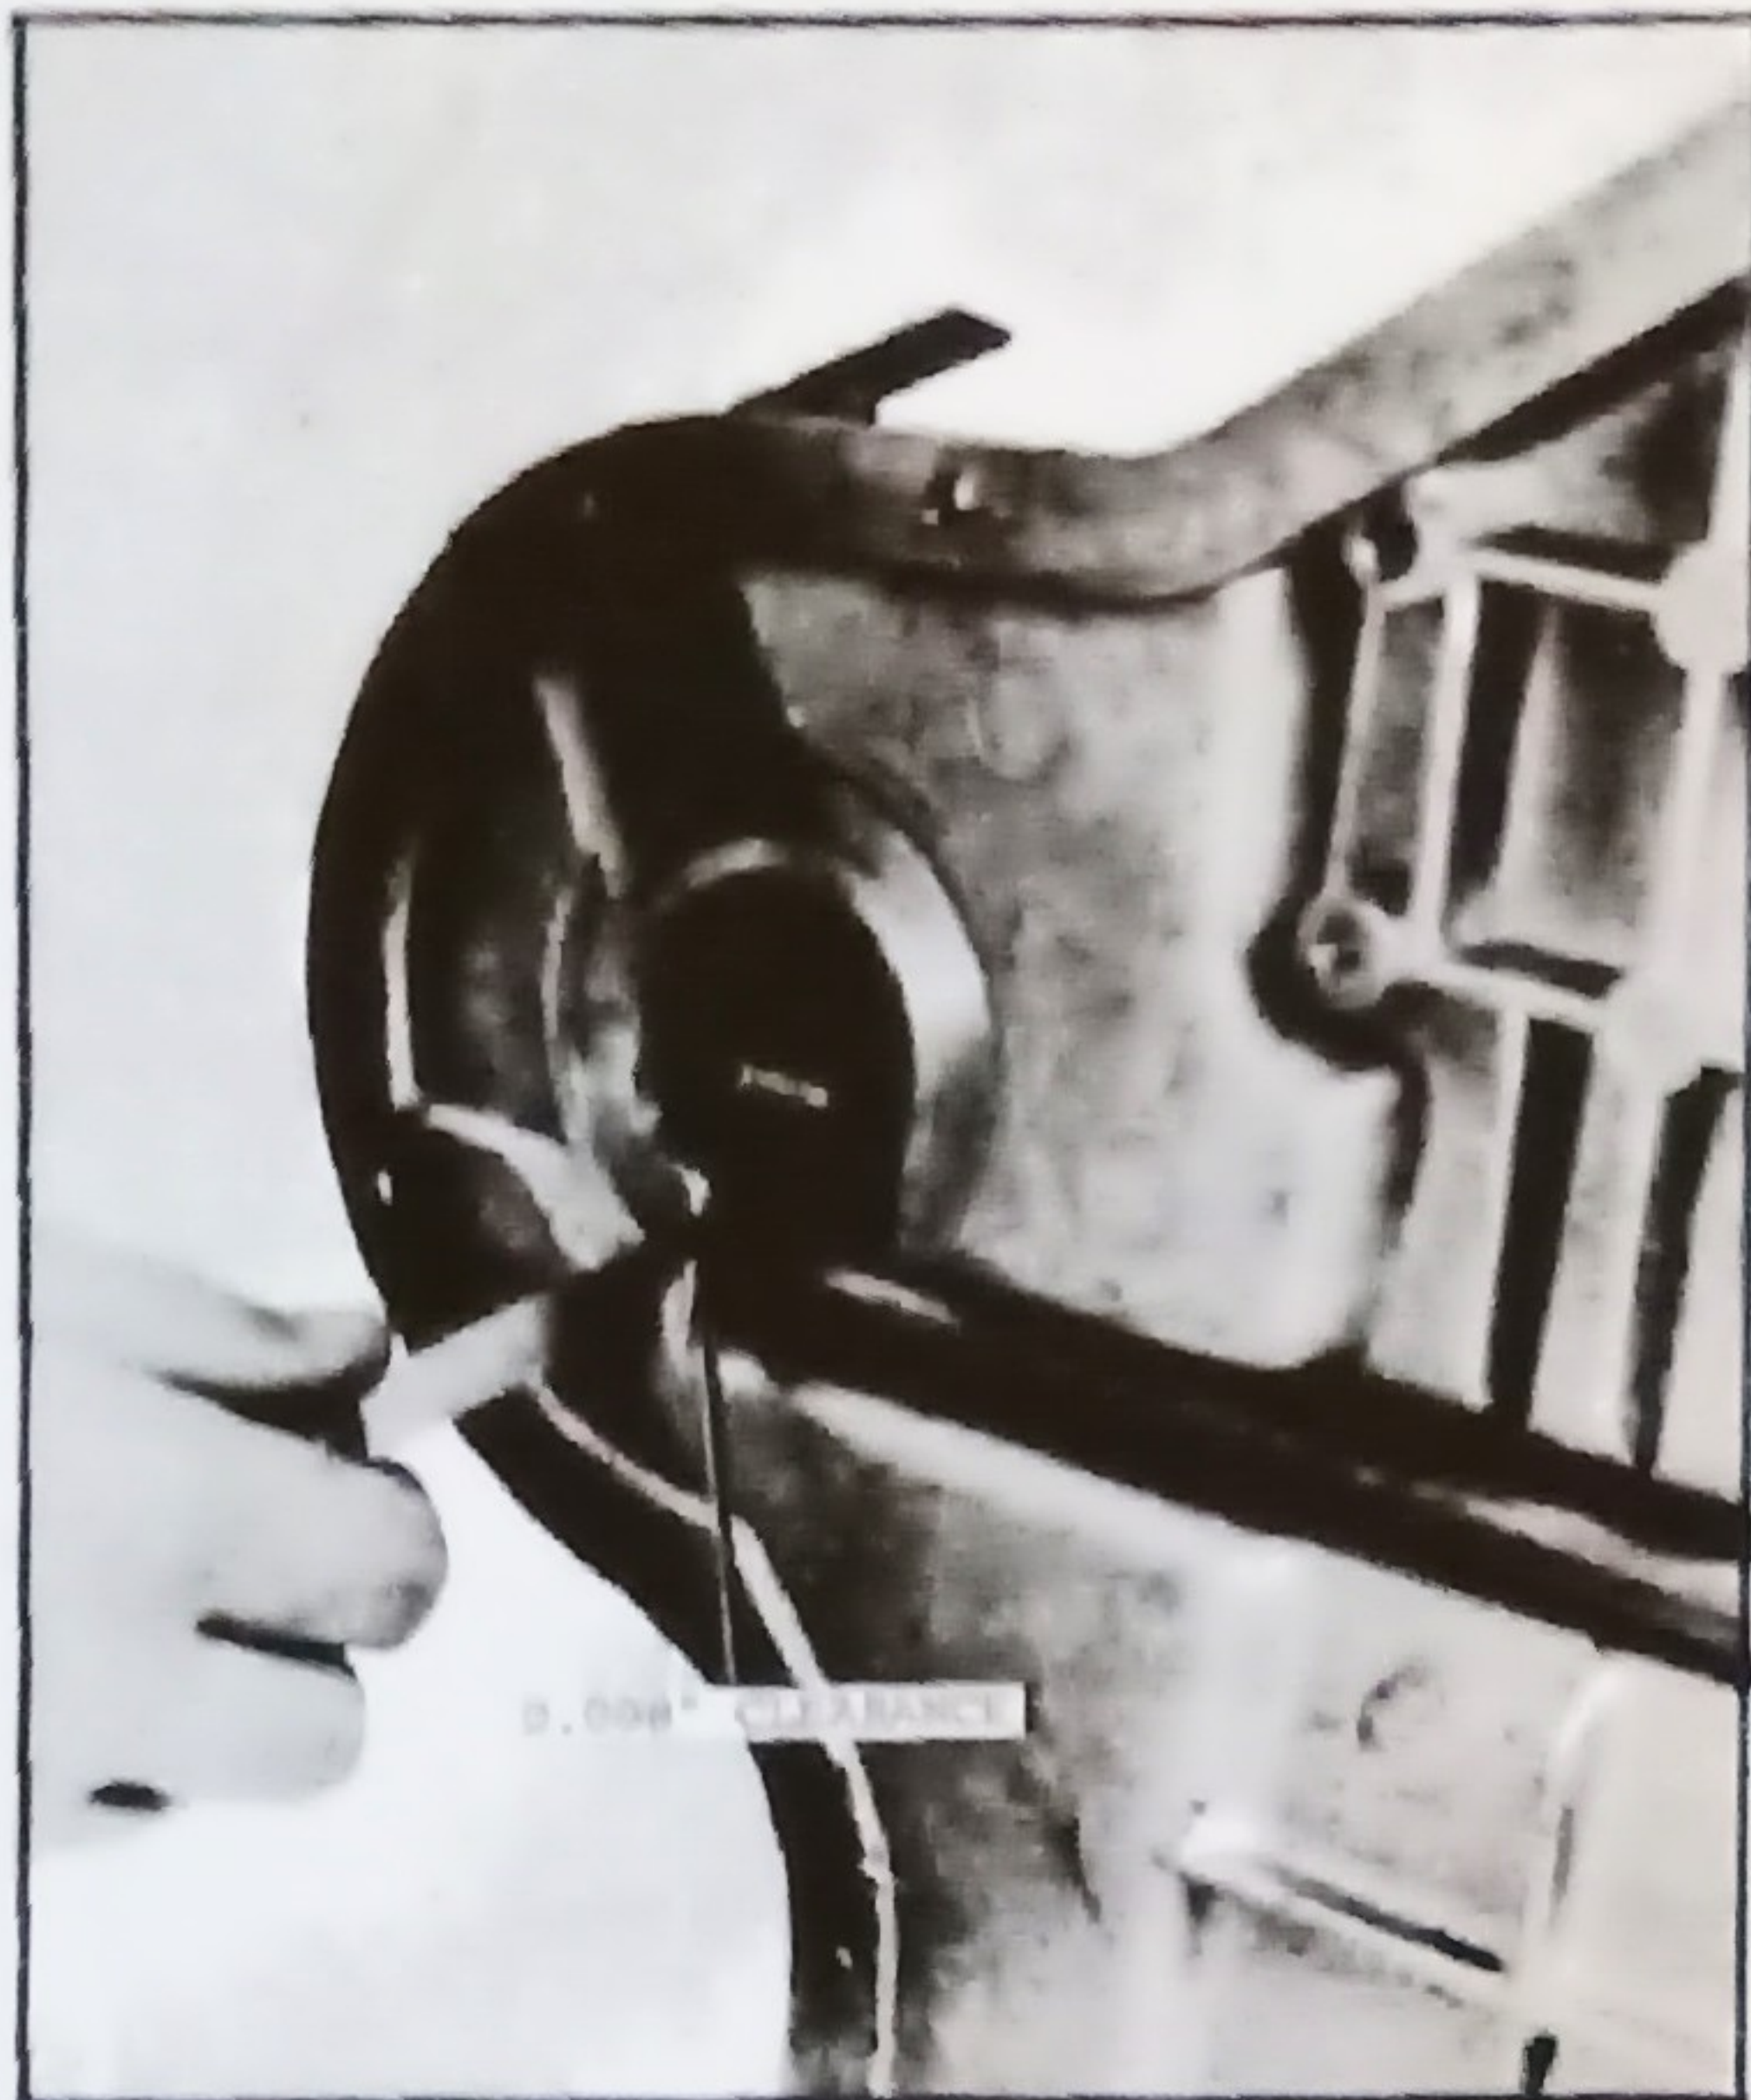

Fig. 33 - Measuring Clearance between Bearing and Shaft
2. Press needle bearing into the cover at the other end of the shaft until it just contacts an 0.008 in. (0,20 mm) feeler gauge between the shaft shoulder and the needle bearing end face as shown in Fig. 33.